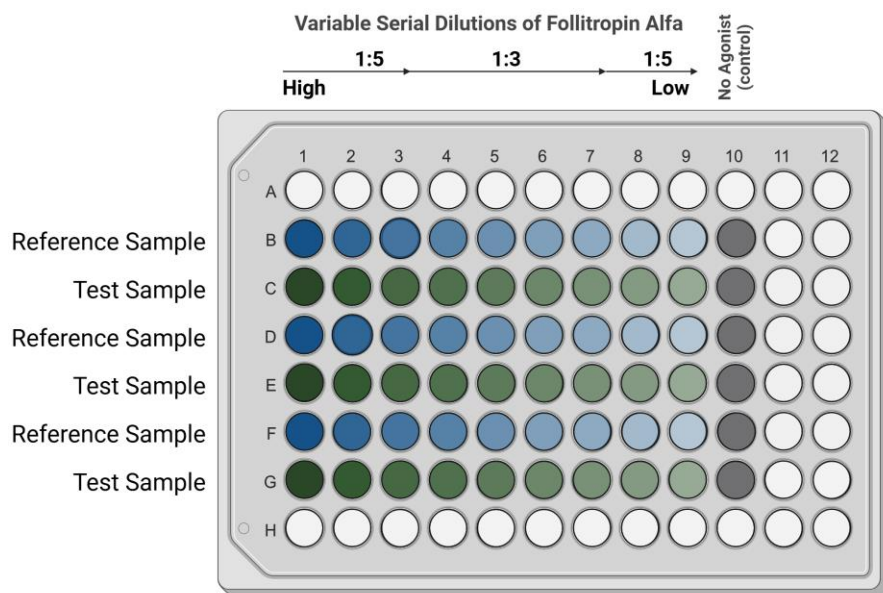

Figure 4: Representative Assay Plate Map
- 4) Transfer 15 µL of the Follitropin alfa (Gonal-F) dilutions series (prepared in section Day 3: Sample Preparation) from the master dilution plate to the appropriate wells in the assay plate as indicated in the Representative Assay Plate Map (Figure 4: Representative Assay Plate Map).
- 5) Transfer 15 µL of test sample dilution series from dilution plate to the appropriate wells in the assay plate as indicated in the Representative Assay Plate Map (refer to Figure 4: Representative Assay Plate Map; Test Sample wells).